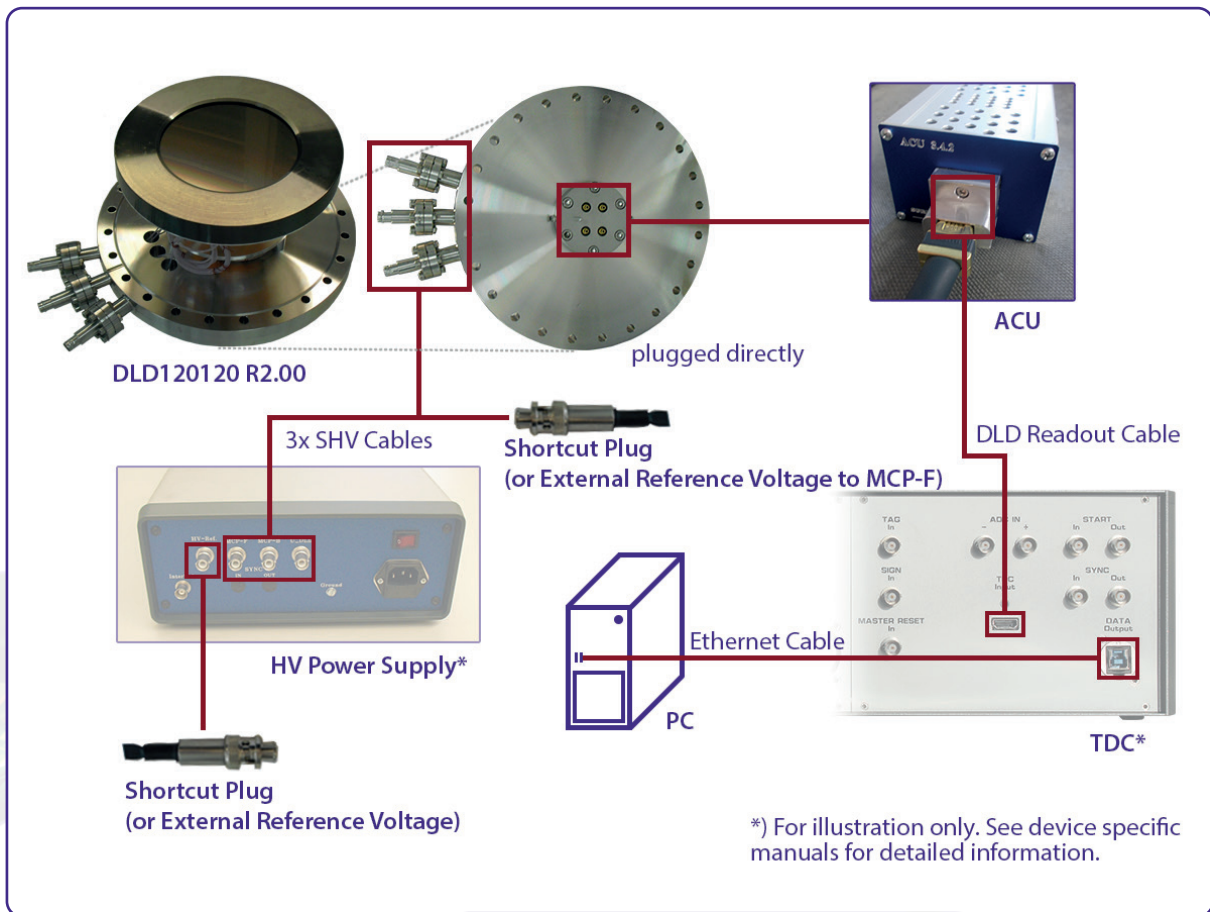

Figure 2: Connection scheme of the Delayline Detector and readout package.
- The general connection scheme of the Delayline Detector including its readout package is shown in **Figure 2**.